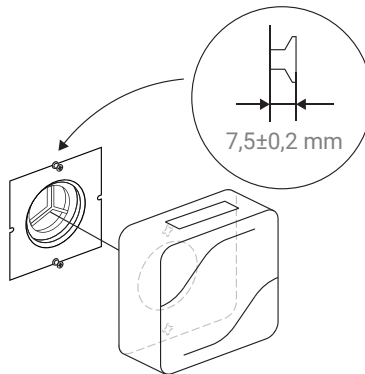

Figure 6.8. Device hanging
9. Make sure that the distance by which the wall anchors heads protrude out of the wall is in accordance with the dimensions shown in Figure 6.8. Lay the power cord on the appropriate side along the cable channels on the rear part of the device. Hang the device onto wall anchors using the mounting lugs on the rear panel of the device.